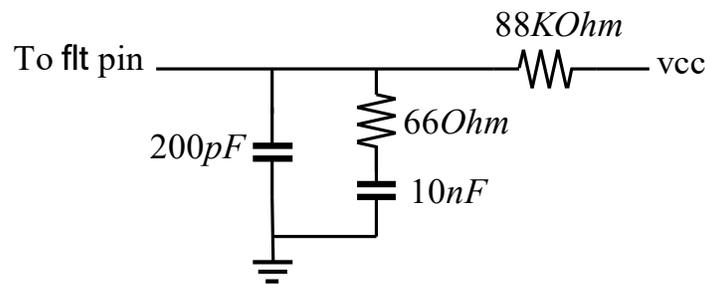

Fig. 5. External Loop Filter
The main function of the clock recovery (CR) core is to frequency-lock the selected on-chip VCO to the input data signal. The CR core contains a phase acquisition loop, and a frequency acquisition loop. The phase acquisition loop includes a high-speed Alexander Phase Detector (APD) that processes the input data stream  $dp/dn$ , and three shifted clock signals that are provided by DLL. The frequency loop consists of a clock divider-by-16, and a PFD Potback block. The frequency acquisition loop works in concert with low-speed clock  $c32p/c32n$ . Both acquisition loops generate signals that control a single charge pump. The charge pump in combination with a filter generates an analog signal that controls the active VCO. The on-chip filter is small, so the CR requires a single off-chip filter shown in Fig. 5 to be connected to pin flt. The 88kOhm resistor connected to vcc is necessary for operation, while the rest of the filter can be adjusted as needed.